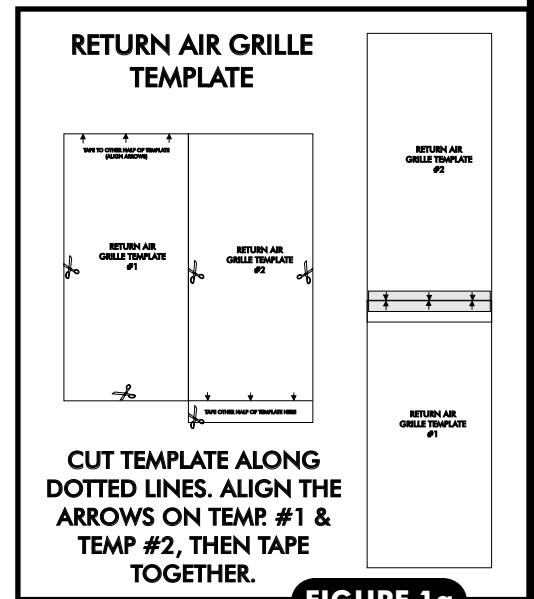

FIGURE 1a
- CENTER TEMPLATE ON THE REAR DECK WHERE YOU WANT THE RETURN AIR GRILLE PLENUM. MAKING SURE THERE ARE NO WIRES OR OBSTRUCTIONS UNDER THE REAR DECK, MARK AROUND THE TEMPLATE AND THE CUT HOLE IN REAR DECK. SEE TEMPLATE INSTRUCTIONS IN FIGURE 1a BELOW.